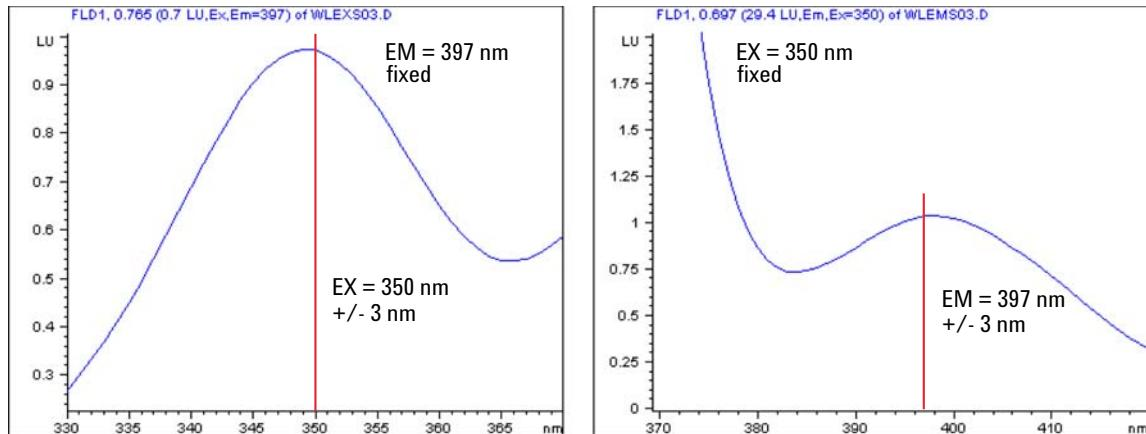

Figure 64 Excitation and Emission Spectrum (expected results)
As result, the maxima should be found at $350\text{ nm} \pm 3\text{ nm}$, see Figure 64 on page 171.
As result, the maxima should be found at $397\text{ nm} \pm 3\text{ nm}$, see Figure 64 on page 171.
- 4 Open the Online Spectra plot and observe the maximum as shown in Figure 64 on page 171 (left).
- 6 Open the Online Spectra plot and observe the maximum as shown in Figure 64 on page 171 (right).